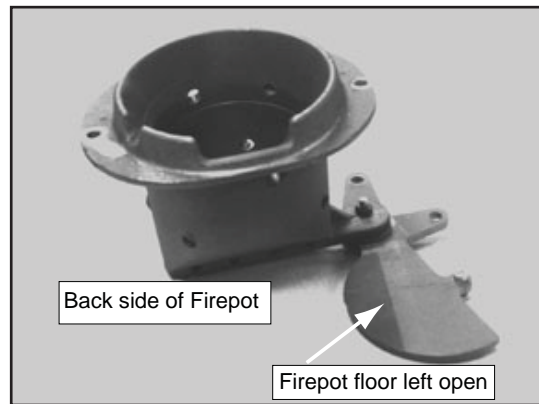

Figure 26.1 - DO NOT LEAVE FIREPOT FLOOR OPEN
- c. The firepot floor plate must be fully closed when finished. **See Figure 26.1 on page 26.**